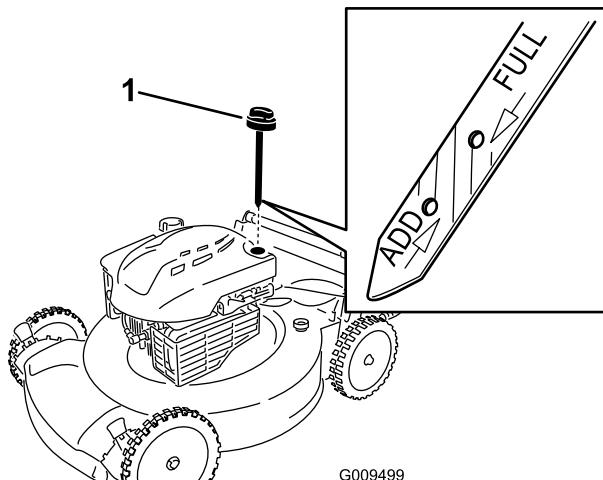

Figure 5
1. Remove the dipstick (Figure 5).
2. Slowly pour oil into the oil fill tube until the oil level reaches the **Full** line on the dipstick (Figure 5). Wait 3 minutes after adding oil to check the oil level with the dipstick. **Do not overfill.** (Max. fill: 20 oz. (0.59 l), type: SAE 30 detergent oil with an API service classification of SF, SG, SH, SJ, SL, or higher.)